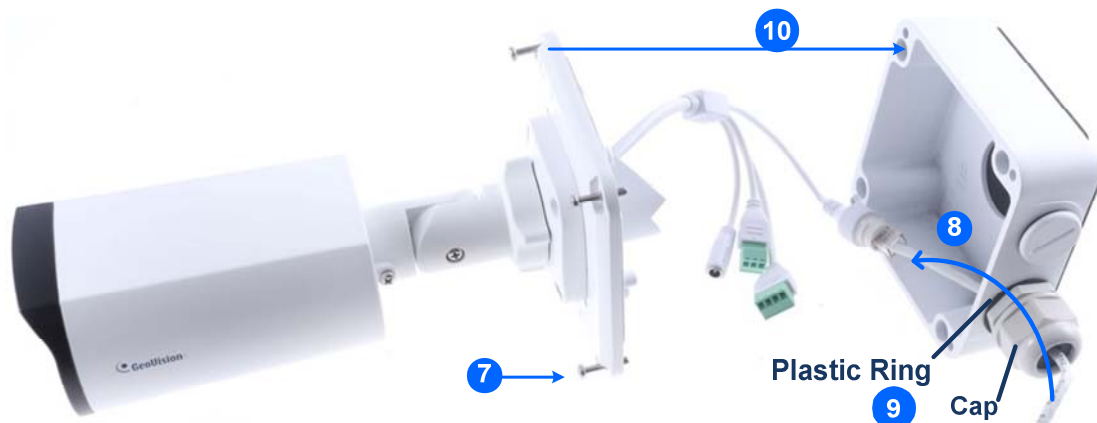

Figure 1-61
- Reattach the box cover to the power box, as shown in No. 7, *Figure 1-61*.
- Thread the Ethernet cable through the PG21 conduit connector and the power box as shown in No 8, *Figure 1-61*. Then connect the cable to the camera. To waterproof the cable, see *1.6 Waterproofing the Cable*.
- Rotate the plastic ring to secure the conduit connector to the power box. Secure in the cap, as shown in No 9, *Figure 1-61*
- Secure the box cover to the power box, as shown in No 10, *Figure 1-61*.